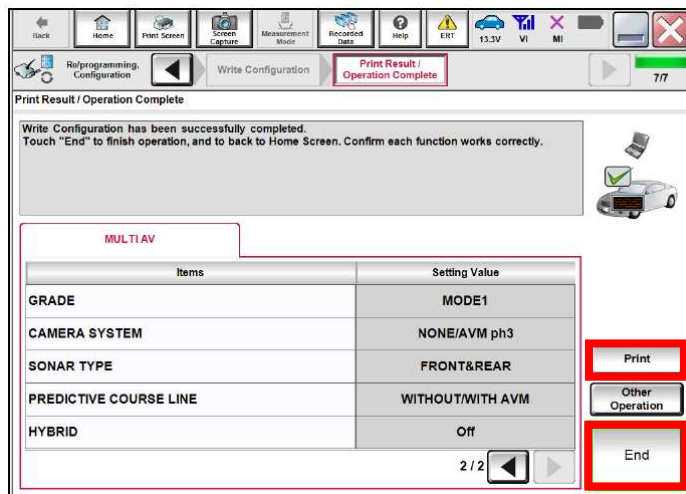

Figure 37
40. Print confirmation after the configuration has been successfully completed. (Figure 37)